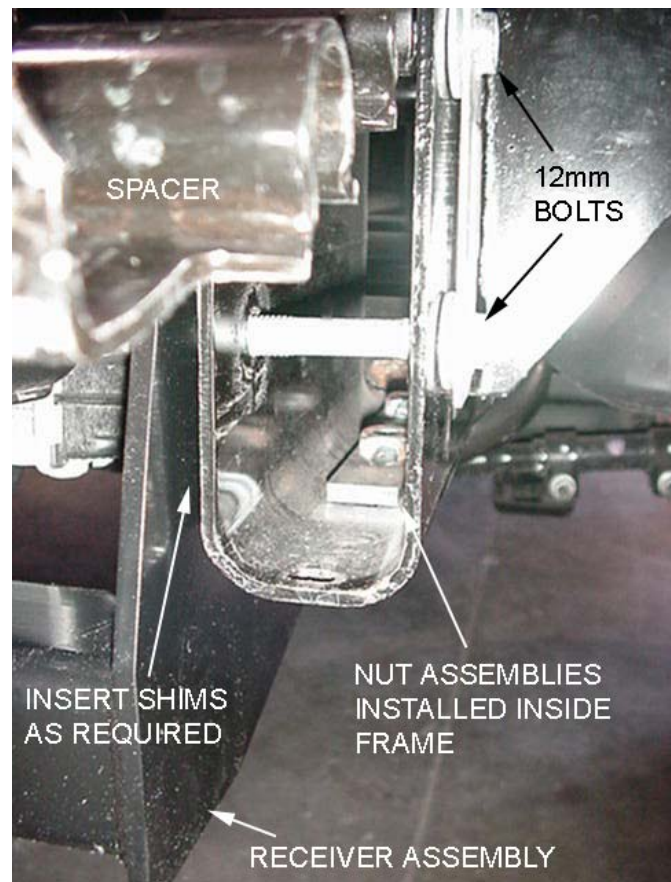

Figure 6 Nut Assemblies in place (left side shown)
- Install a 7/16 x 1-1/2" bolt with lock washer and flat washer through each hole and thread into a 7/16" Nut Assembly inserted through the end of the frame tube. Do not tighten at this time. **See Figure 6**
- Remove the factory 12mm bumper bolts allowing the Receiver Assembly to hang by the four (4) 7/16 x 1-1/2" bolts. Note: the shims will be free to drop out at this point.
- Push the factory spacers back into position in the end of the frame tubes and reinstall the bumper brackets. Slide the brackets between the Receiver Assembly and the frame tubes. Insert up to two (2) Shims per side to take up the space between the Receiver Assembly and the bumper bracket/frame. If equipped with factory tow hooks, reinstall the inside brackets after the bumper brackets are in position. It may be necessary to enlarge the holes to insert the tow hook bolts as they will be forced inward by the thickness of the 1/4" receiver end plate. Re-install the factory bolts from the